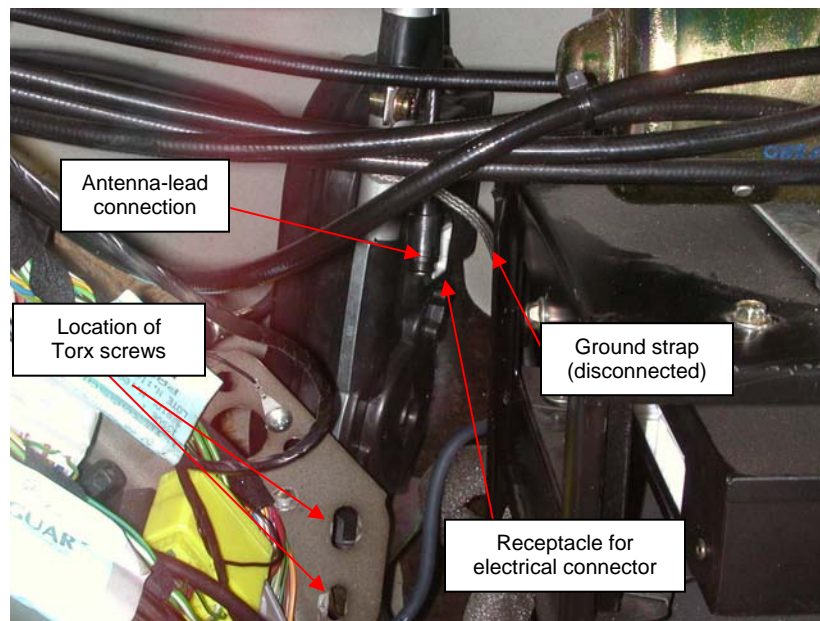

Fig. 4
4. Both: disconnect (a) the ground strap from the frame, (b) the antenna lead to radio and (c) the electrical connector (Fig. 4). XK8: I found it useful to unplug the three connections to the audio amplifier to give better access to the antenna. Remove the two Torx screws (not shown) holding the motor support to the body.